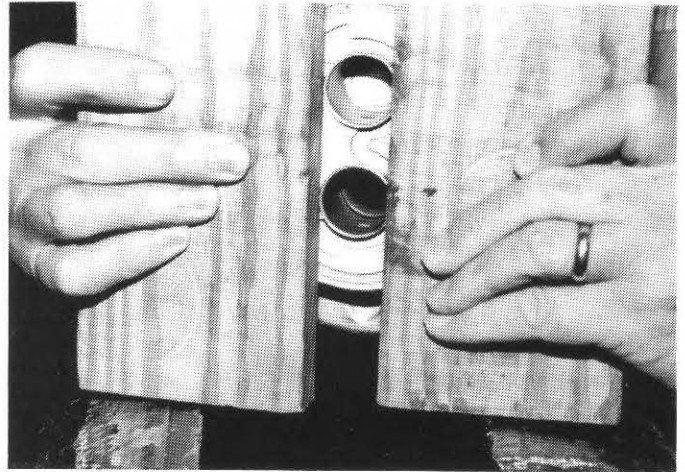

FIG. 5
10. If an arbor press is available, use it to press the new seal into the flange bore. If the press is not available, place the flange in a vise with the seal bore facing the movable jaw. Arrange blocks of wood on each side of the protruding ends of the bearings, at the side next to the fixed jaw, to prevent pressing on the bearings while the seal is being pressed in. (Fig. 5)